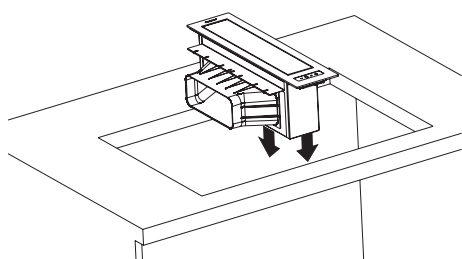

Fig. 26
7. → Insert the appliance in the middle of the kitchen counter that you have prepared (Fig. 26).